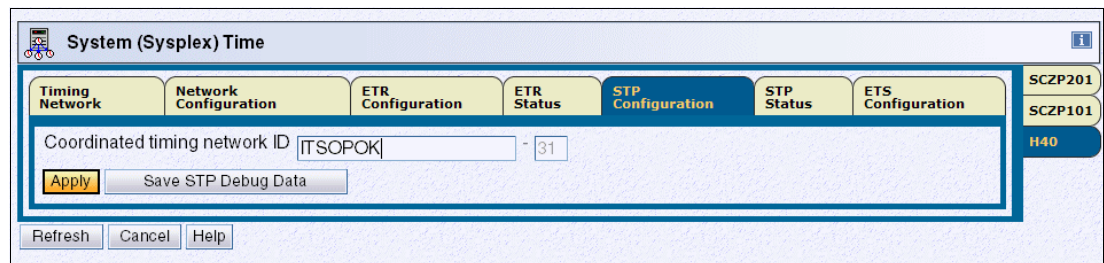

Figure 12-11 STP Configuration tab - Define STP ID (H40)
3. Enter the required STP ID (in our case, ITSOP0K) in the Coordinated Timing Network ID field (Figure 12-11).